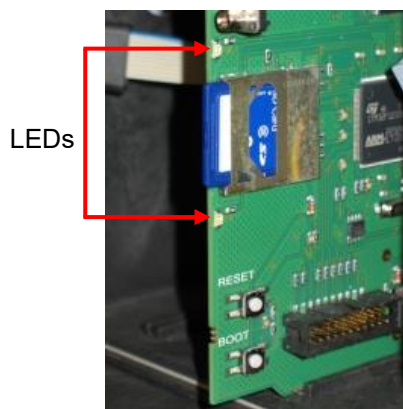

Figure 30
8. The Testomat restarts and implements the update. In this mode, although no text is output, the status is indicated via the LEDs of the SD card (see figure 30) as well as those on the control card (see figure 32 on page 64). The programming progress is indicated as bars with five LEDs on the control card: Initially, only LED1 flashes (in the vicinity of the plug connector to the motherboard) slowly (once every two seconds) and later permanently, whereupon the next LED begins flashing. The process is repeated until all LEDs light up permanently. The firmware update is now complete. The Testomat is started automatically with the new operating software. The complete firmware update takes around 70 seconds.